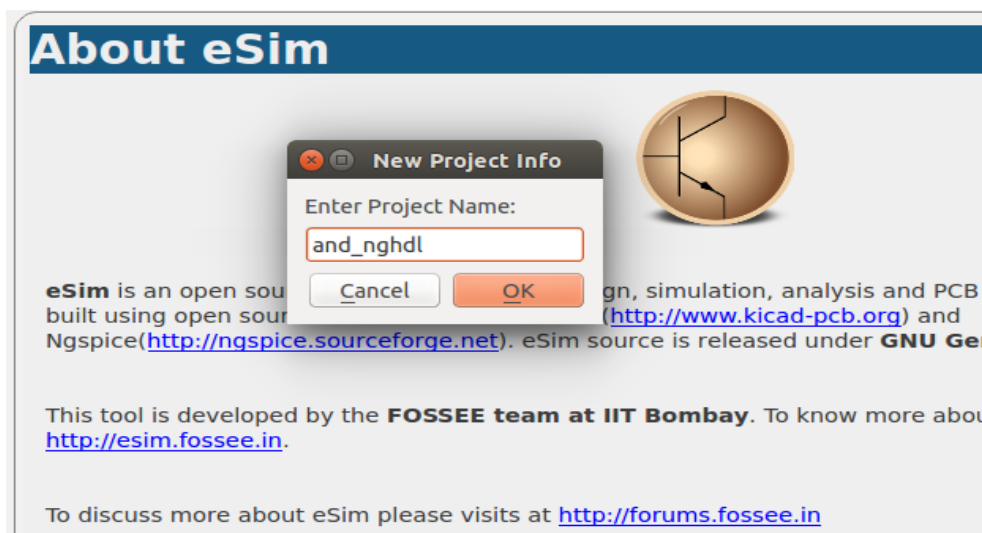

Figure 9.5: Creation of a new project
1. Click on New Project icon to create a new project as shown in Fig. 9.5, be careful of the naming conventions.